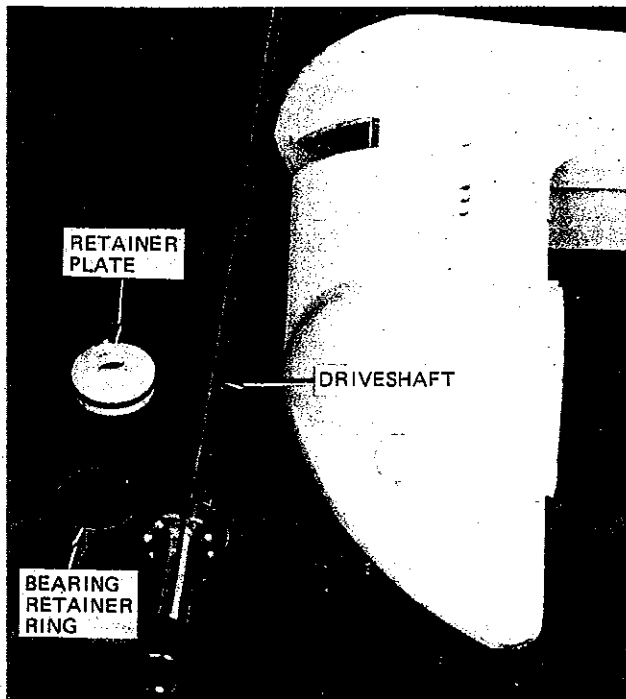

Figure 14. Remove retainer ring and plate.
- Q. Use snap-ring pliers to remove bearing retainer ring securing drive shaft bearing in gear housing (Figure 14).